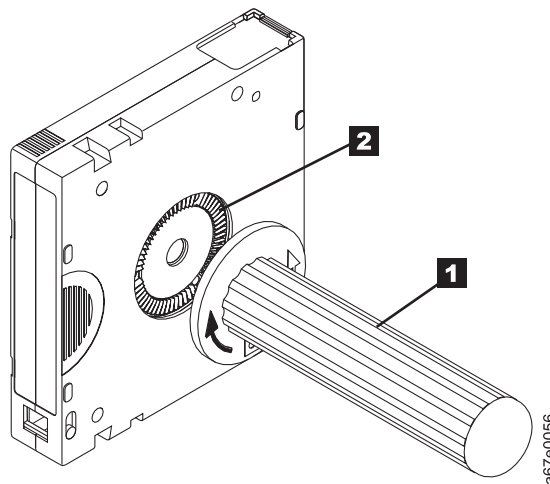

Figure 20. Rewinding the tape into the cartridge
5. To rewind the tape, insert the cartridge manual rewind tool (**1** in Figure 20 on page 56) into the cartridge's hub **2** and turn it clockwise until the tape